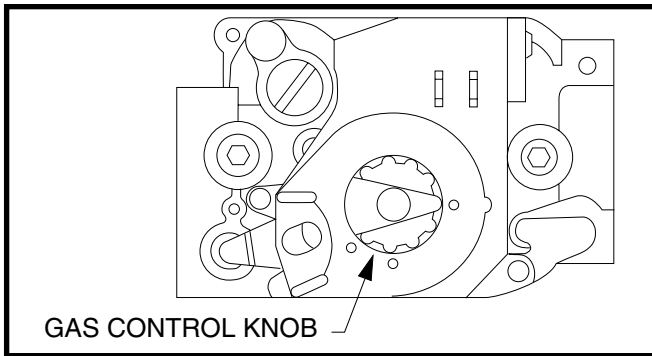

Figure 28. Direct Ignition Gas Valve - Honeywell
3. Remove the furnace door and turn off the gas valve. Push in and turn the gas control knob clockwise to **OFF**. See Figure 28 \(page 20\).
4. Wait ten (10) minutes to clear out any gas. If you smell gas, **STOP!** and follow the Safety Information. If you do not smell gas, proceed to step 5.
6. Turn the gas valve ON. Push in and turn gas control knob counter-clockwise to **ON** (Figure 28).
4. Turn gas control knob clockwise to **OFF** (Figure 28).
- Verify the furnace On-Off switch is in the ON position. See Figure 27 \(page 15\) or Figure 28 \(page 20\).